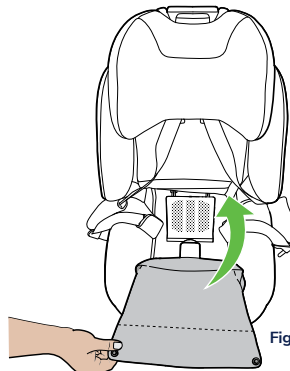

Figure 13
Step 3. Close installation door and button up seat trim (Figure 13).